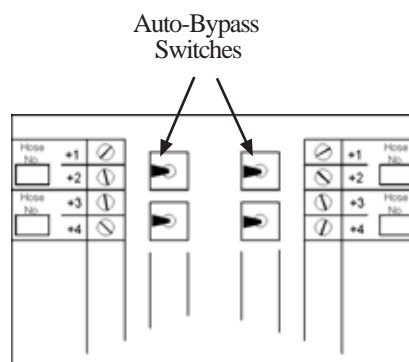

FIGURE 4-1. DATA DISTRIBUTION BOX. The Auto/Bypass switches connect or disconnect a dispenser from the control system.
1. In the data distribution box, switch the Auto/Bypass switch for the dispenser to the Bypass position. See Figure 4-1.